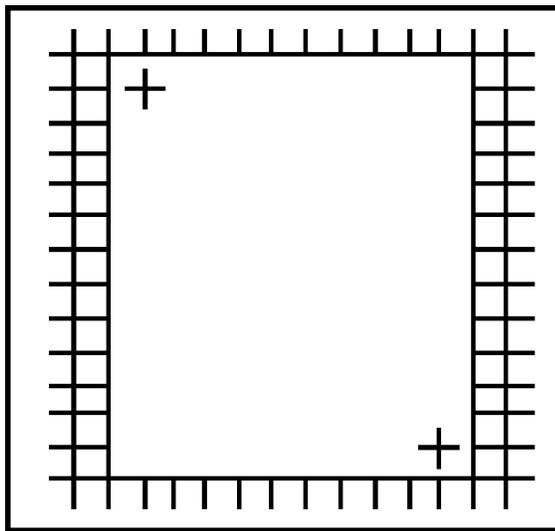

Figure 3-121. Map Graphic
1. Place overlay materials over the map area to be annotated (see Figure 3-121).